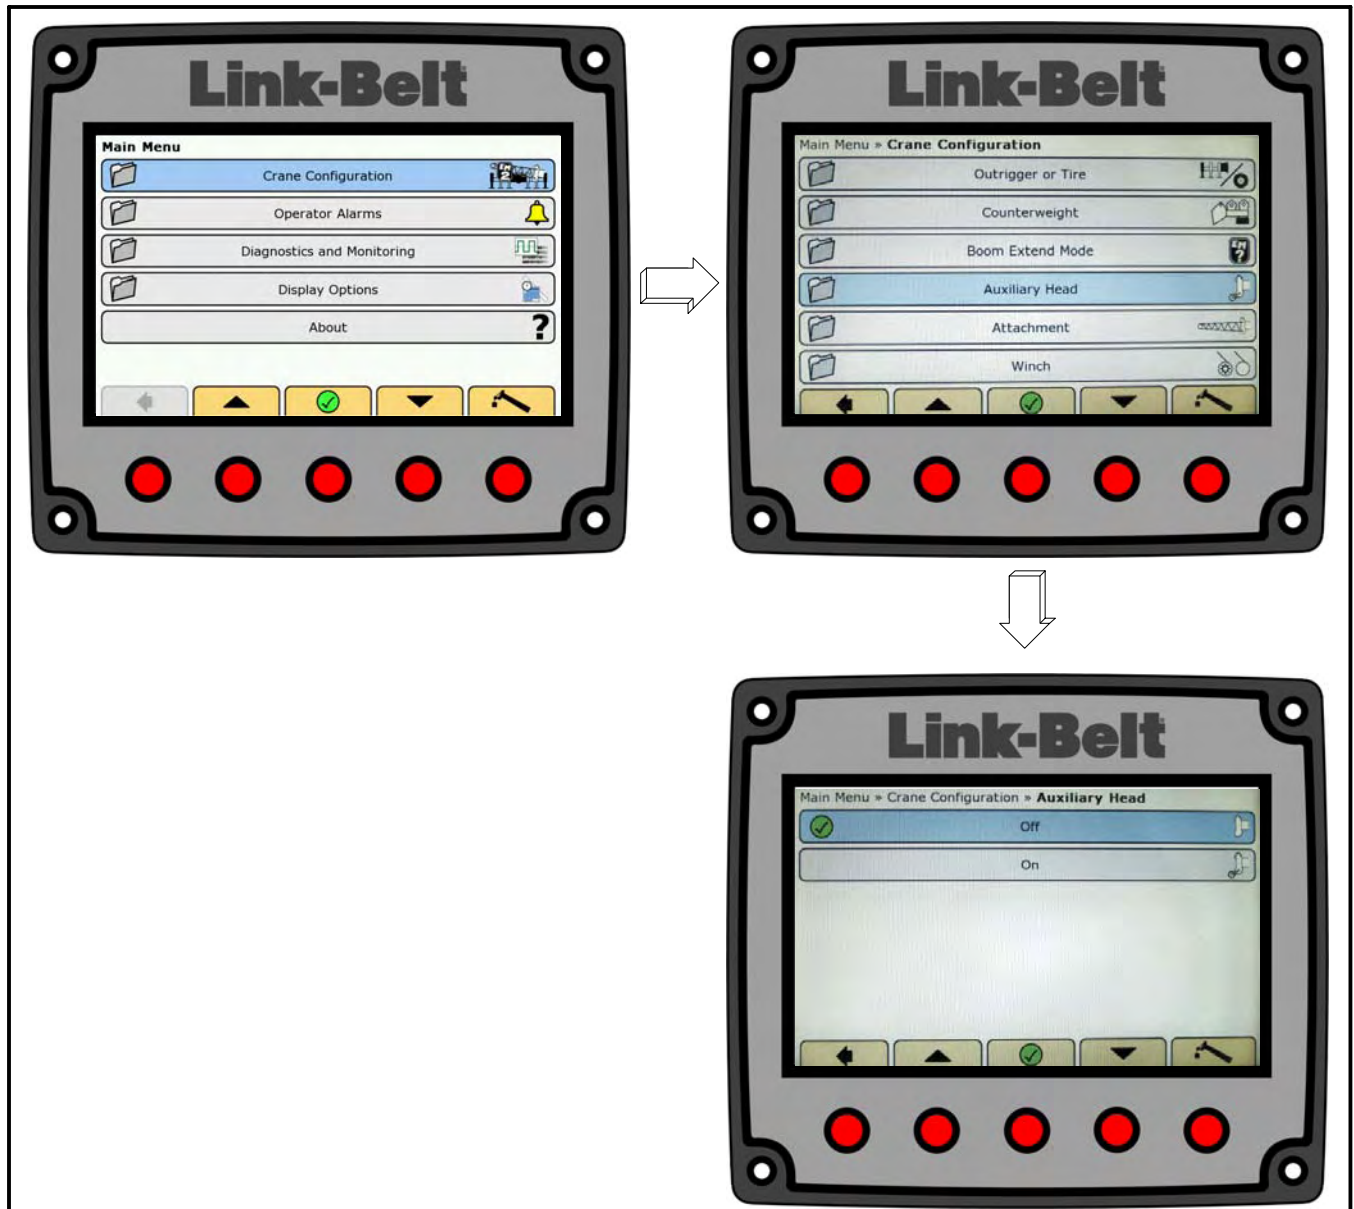

Figure 1–80
12. On the Crane Configuration menu, scroll to Auxiliary Head, and press the OK/Enter button . Refer to Figure 1–80.